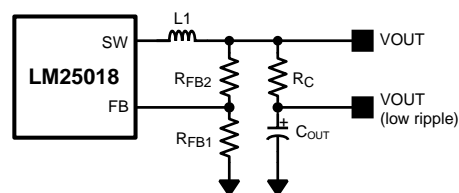

Figure 13. Low Ripple Output Configuration
This regulator regulates the output voltage based on ripple voltage at the feedback input, requiring a minimum amount of ESR for the output capacitor (C_{OUT}). A minimum of 25mV of ripple voltage at the feedback pin (FB) is required for the LM25018. In cases where the capacitor ESR is too small, additional series resistance may be required (R_C in Figure 13 Low Ripple Output Configuration).
For applications where lower output voltage ripple is required the output can be taken directly from a low ESR output capacitor, as shown in Figure 13 Low Ripple Output Configuration. However, R_C slightly degrades the load regulation.